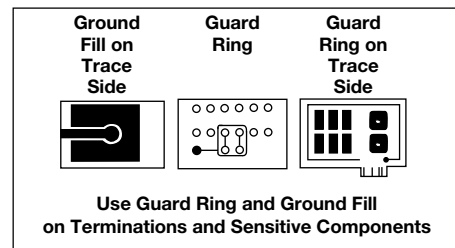

Fig. 3
- A guard ring around trace layers reduces emission out of the board; also, connect to ground only at a single point and make no other use of the guard ring (Fig. 3)